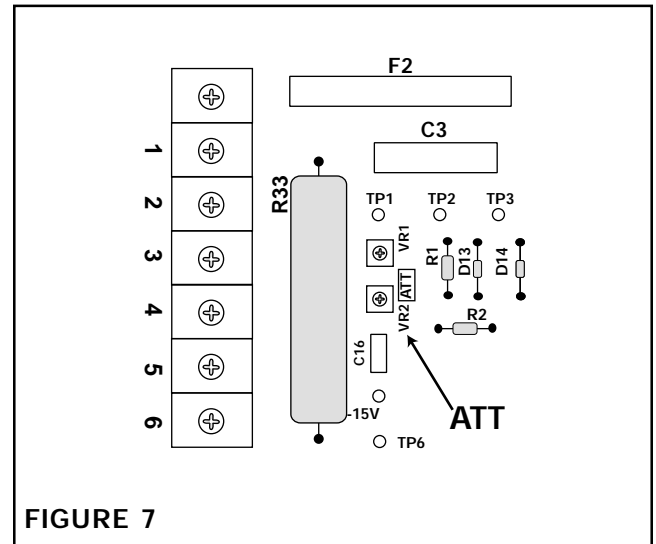

FIGURE 7
1. Turn the ATT potentiometer fully counterclockwise. (See Figure 7)